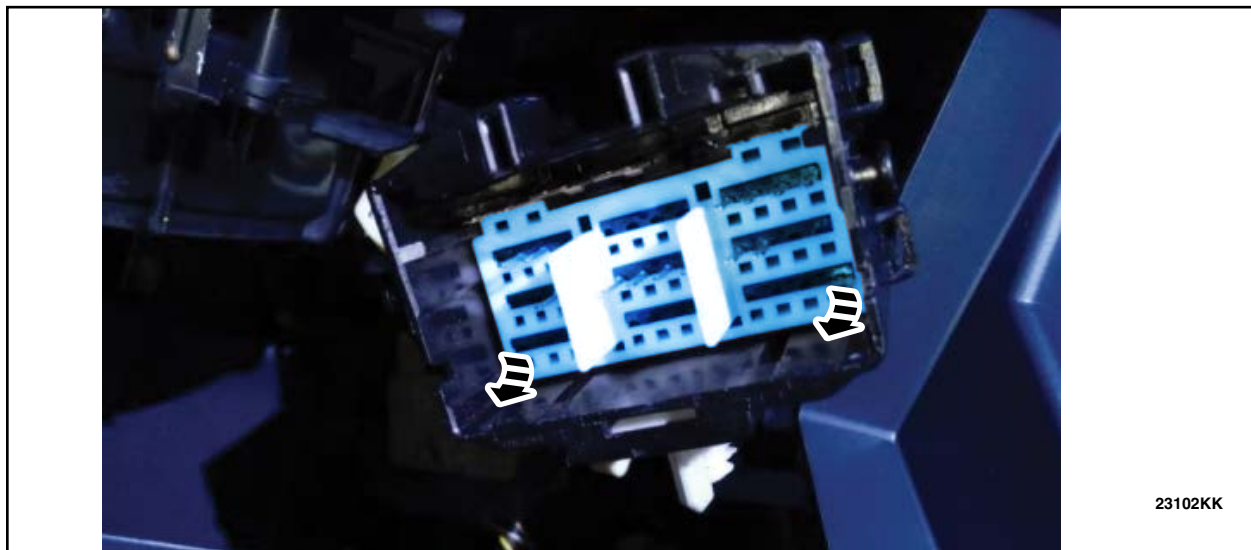

FIGURE 20
23. Remove the TPA cover inside of the connector. See Figure 20.